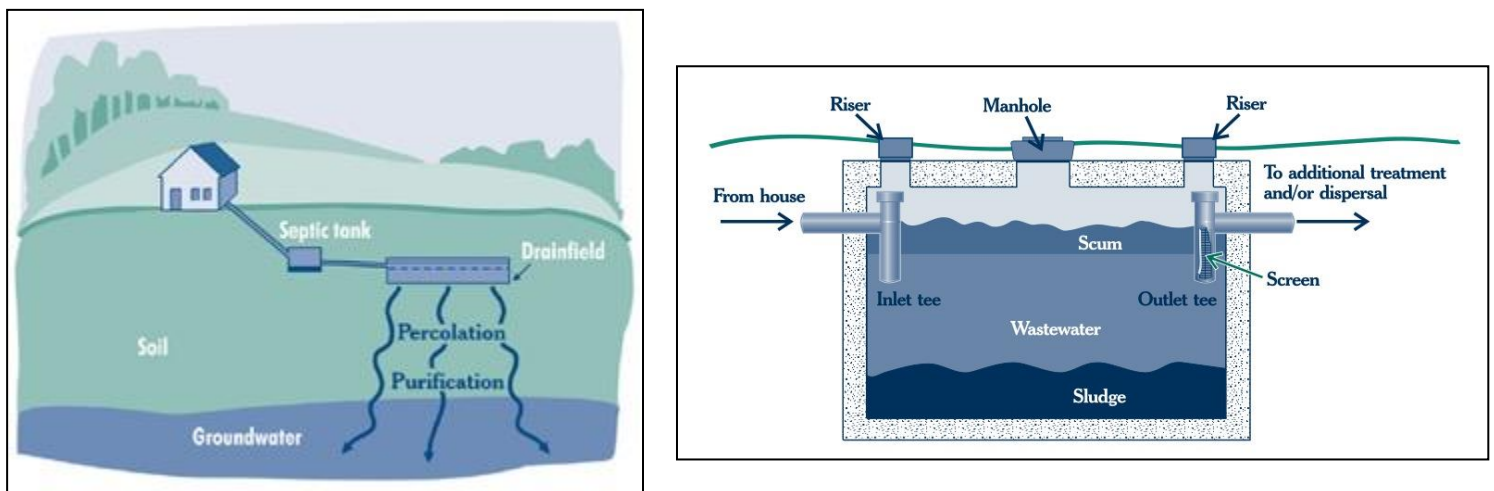

Figure 1.10: Common septic systems. Source: A Homeowner's Guide to Septic Systems, US EPA
- Systems consist of an underground septic tank and a drainfield (typically a home's backyard). Wastewater is piped from the home into the tank, where bacteria digest the waste (See **Figure 1.10**).